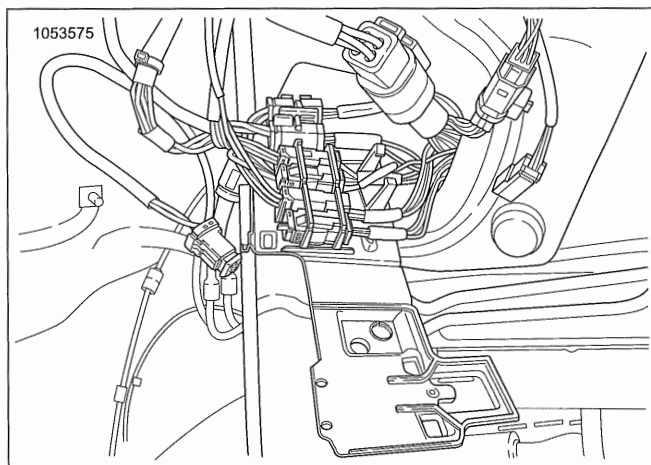

Figure 7-142. Center Fold Connectors
- a. See Figure 7-142. Disconnect connectors.